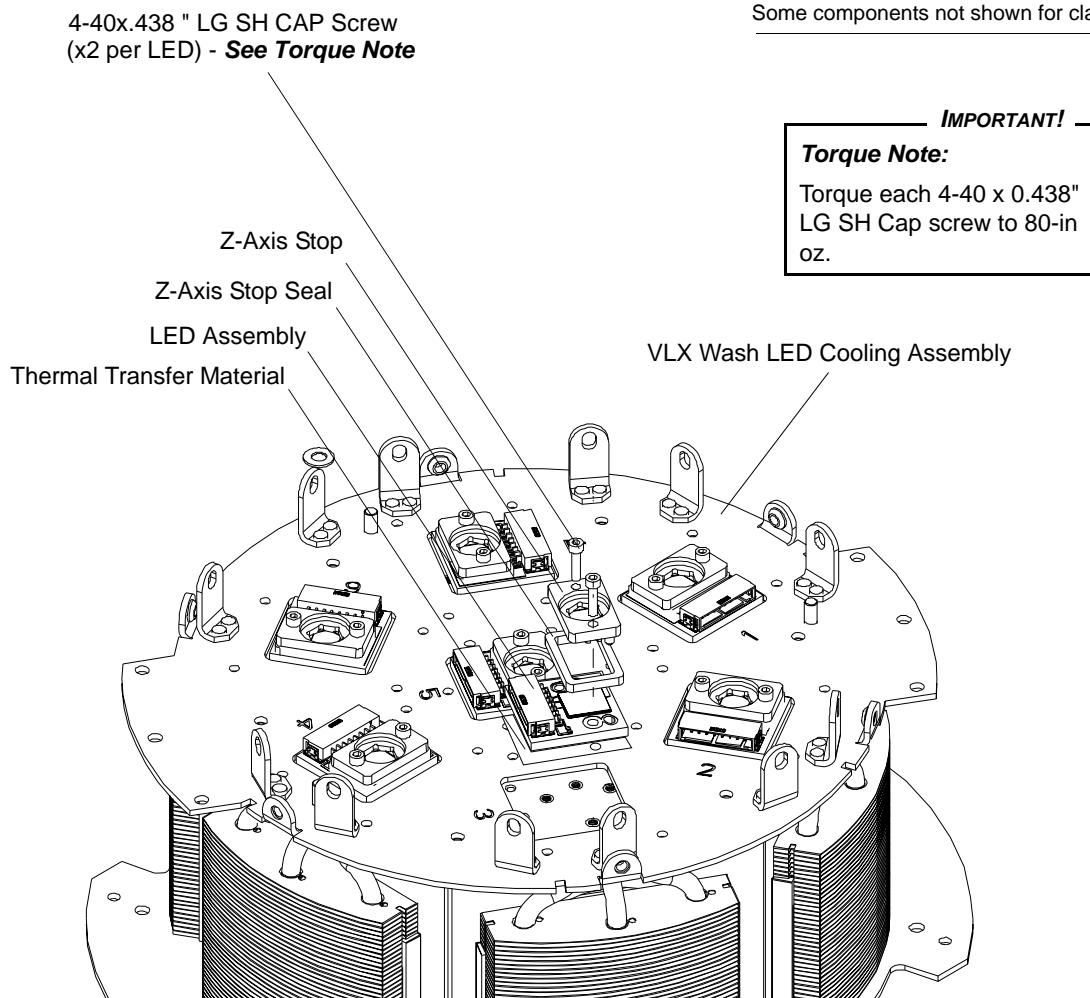

Figure 2-40: LED Assembly Removal & Installation
- Step 7. As indicated in Figure 2-40, using long 3/32" hex driver, remove two 4-40 x 0.438" LG SH CAP screws from LED die.